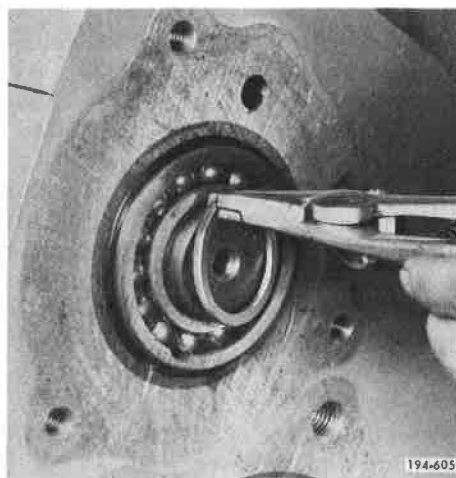

Figure 5-724. Removing Snap Ring
13. Remove rear countershaft rear bearing retaining snap ring, using snap ring pliers J-25445 or equivalent. See Figure 5-724.